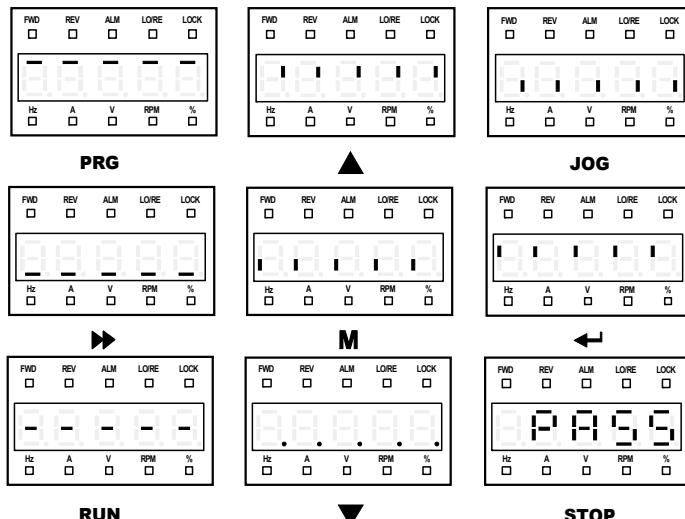

Figure 6-5 Correct correspondence of the keys and the displays
2. Press any key of the panel and observe the LED and the state indicators to detect the corresponding key whether valid. And the correct correspondence is as shown in Figure 6-5.